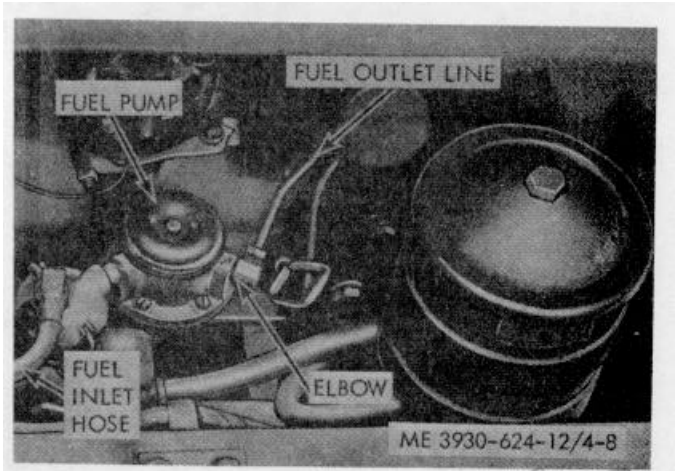

Figure 4-8. Fuel pump.
(1) Disconnect the fuel outlet line at the fuel pump. Install a 0 to 10 psi pressure gage to the outlet port of the fuel pump. Refer to figure 4-8.